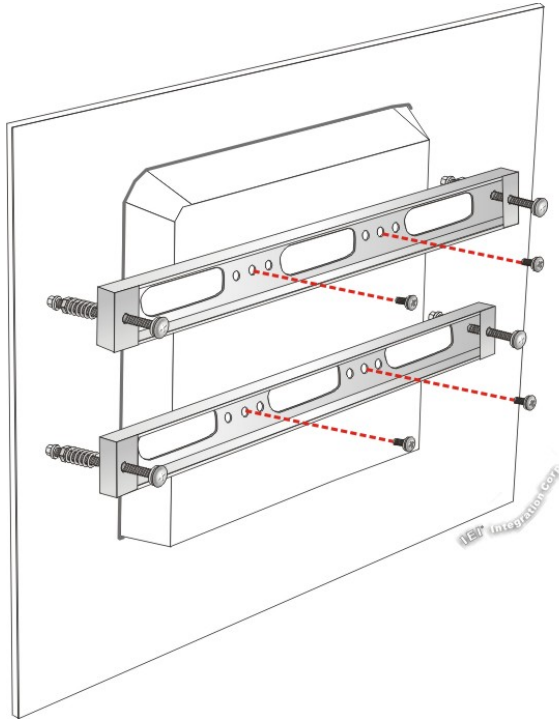

Figure 3-17: Securing Panel Mounting Brackets
Step 7: Secure the two panel mounting brackets to the rear of the panel PC by inserting the four retention screws into the VESA mounting holes and tightening them (**Figure 3-17**).